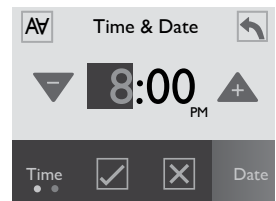

Figure 12.9c
1. When you enter the menu, a few of the icons will be highlighted, Figure 12.9c.